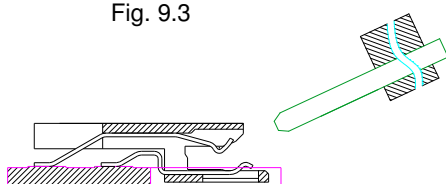

Fig. 9.4
**Step 4th:** Take away the module by hand (see Fig. 9.4).